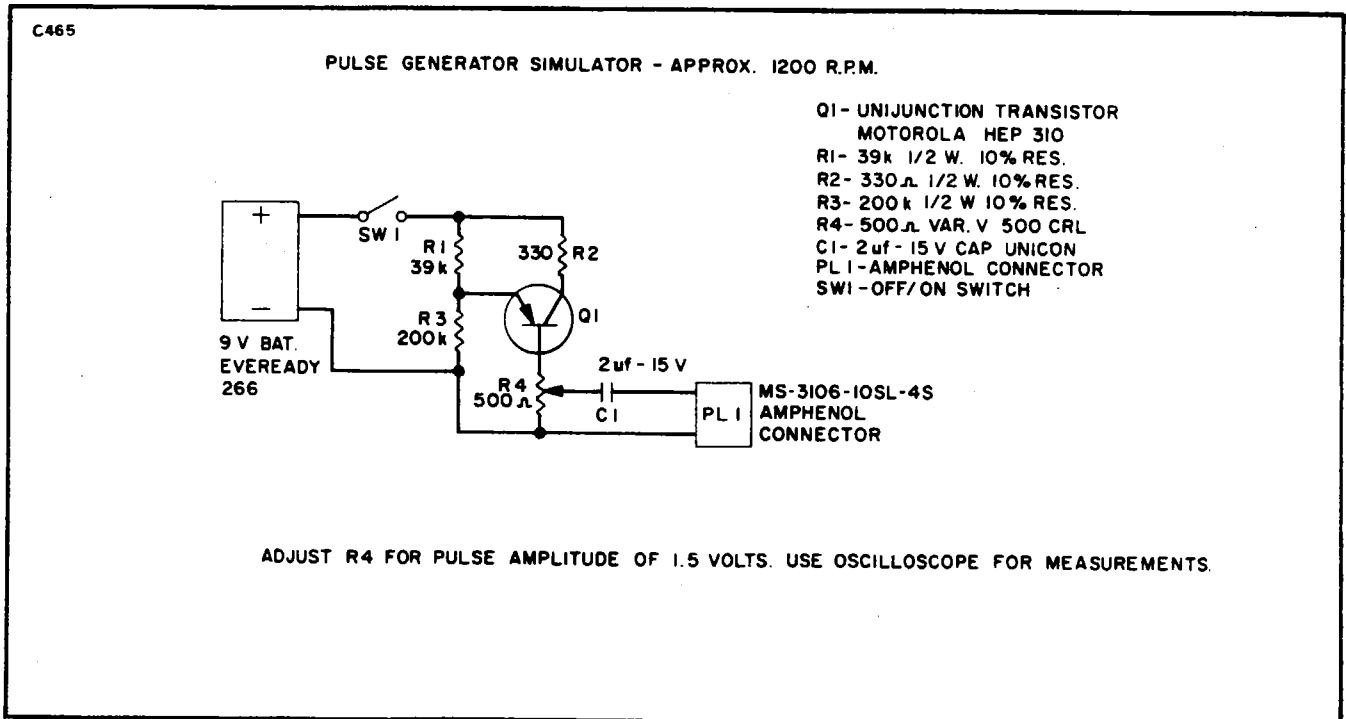

Figure 14-47. Pulse Generator Simulator
- c. Reconnect plug PL3 and visually observe if both glow lamps light with the master engine turning at near cruising RPM. A pulse generator simulator may be used according to Paragraph 14-107 and Figure 14-47.